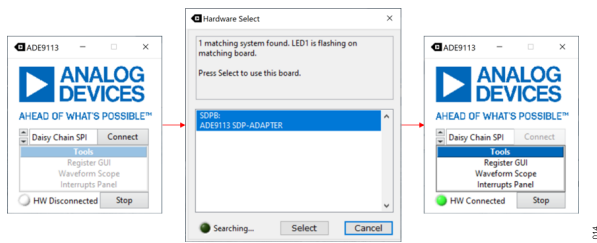

Figure 14. Establishing Connection Using the Dashboard
With the EVAL-ADE9113KTZ software installation complete and the hardware properly configured and powered up, it is time to connect the hardware and the software. Go to **Start > Analog Devices > EVAL-ADE9113KTZ SW** or **C:\Program Files\Analog Devices\EVAL-ADE9113KTZ SW** and launch it. The dashboard shown in **Figure 14** pops up.
The dashboard shown in **Figure 14** allows users to connect the software to the hardware and to launch various tools as follows:
2. Click **Connect** and then **Select**, as shown in **Figure 14**.